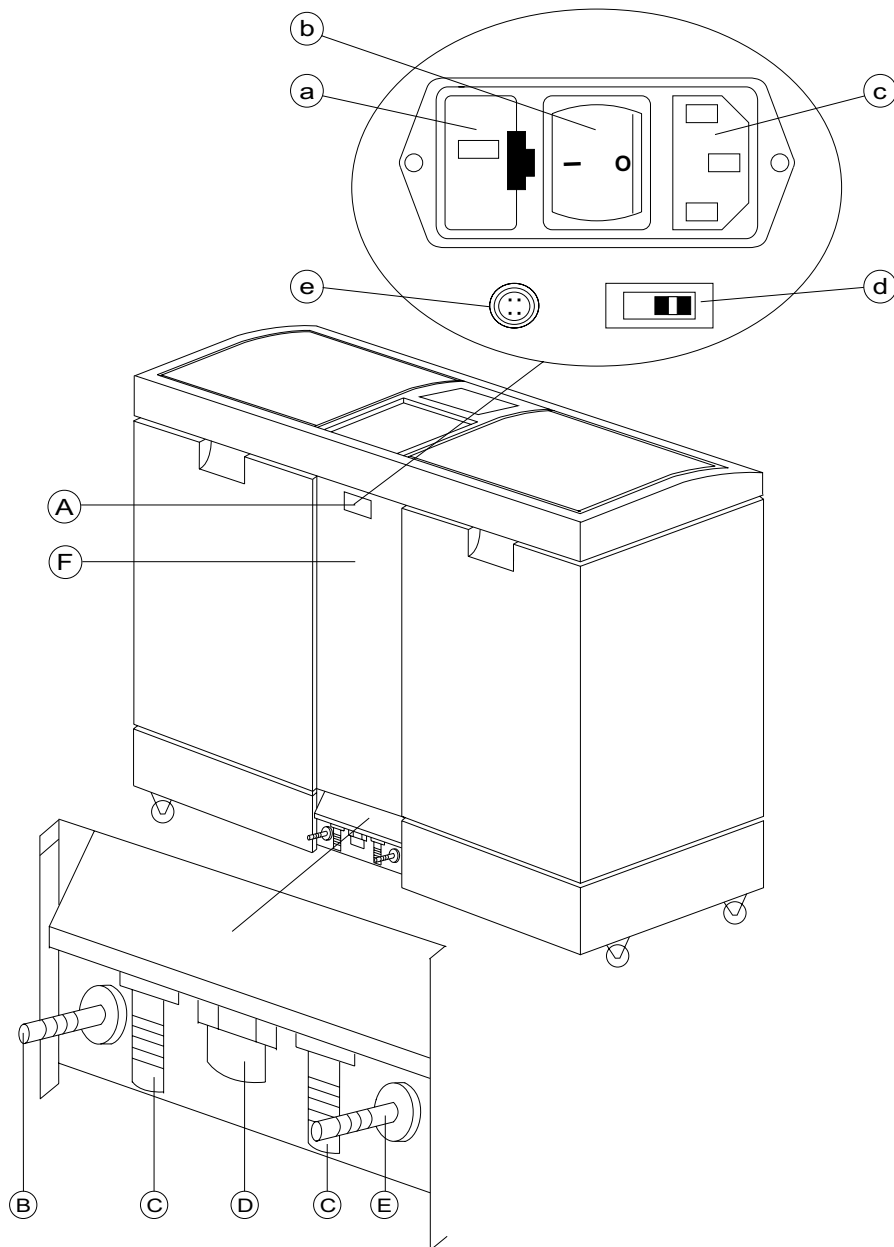

figure 2: Inlets/outlets
Do not change the selected voltage at the VOLTAGE SELECTOR (figure 2 on page 4) yourself. It must always show the correct line voltage. A wrong voltage selection could cause damage to the KODAK Automixer II Plus.
- **Main switch** (see item b of figure 2 on page 4)
- **Selector switch 20 l/40 l or 5 gal/10 gal** (see item d of figure 2 on page 4)